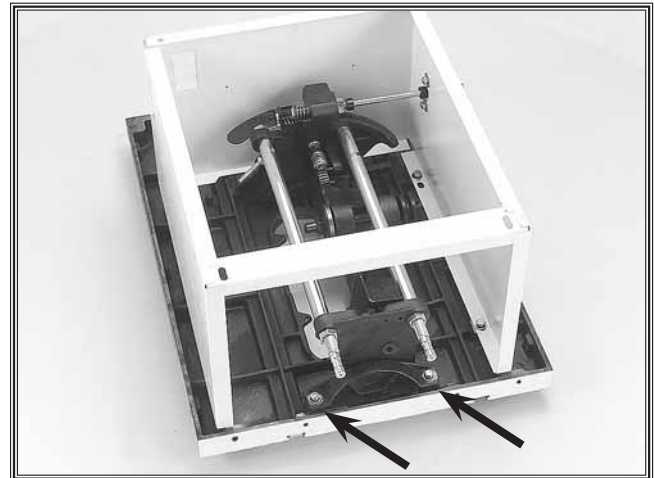

Figure 43. Trunnion bolts (only two shown).
8. Place the saw base unit table down as shown in **Figure 43**.
1. Loosen the 4 trunnion bolts (Figure 43).
The miter gauge (shown in Figure 43) allows you to support the workpiece at a given angle, while crosscutting. In order to be accurate, the miter gauge pointer needs to be adjusted before use.